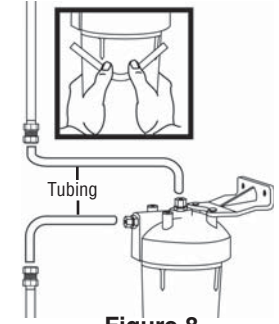

Figure 8
8. Cut two lengths of 3/8" soft copper tubing and bend to shape as shown. Bend tubing to form gentle curves rather than sharp bends. (Figure 8)